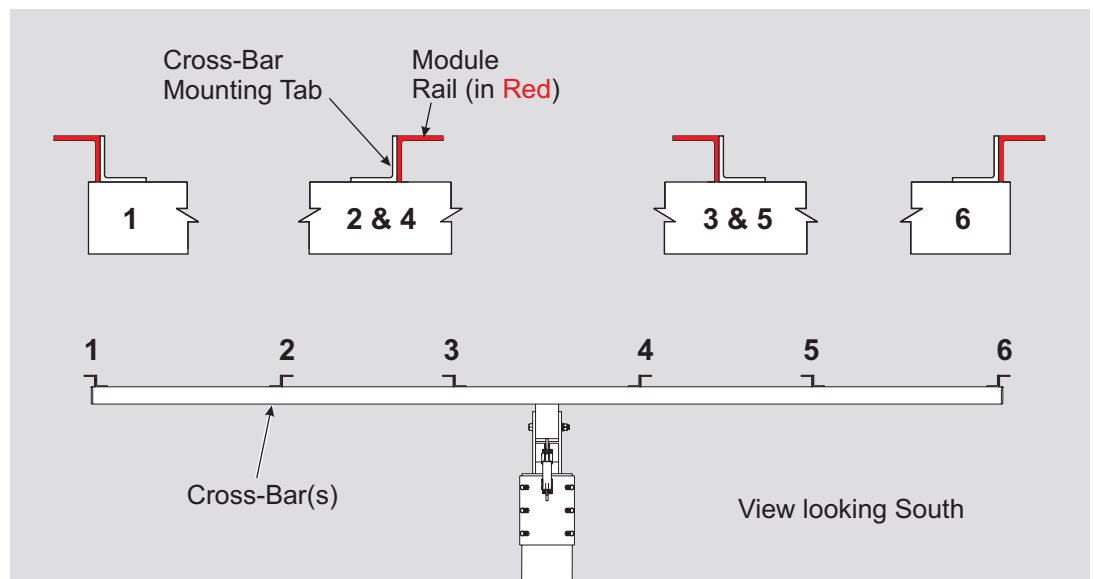
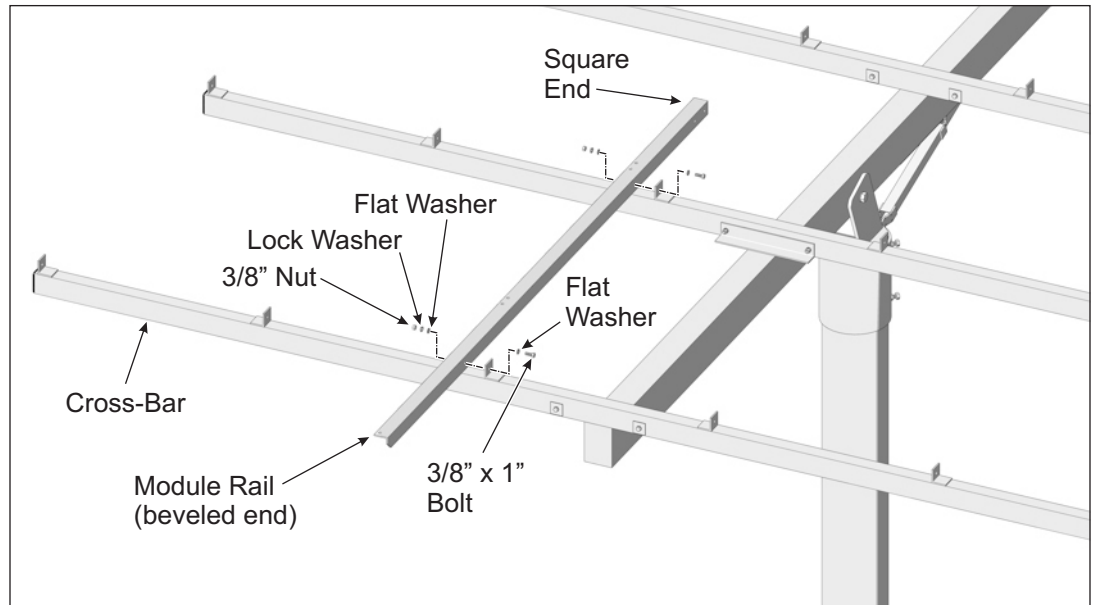

Figure 4-1: Orientation of Module Rails to Cross-Bars
Figure 4-2: Installing southern inboard Module Rail to Cross-Bars
The Cross-Bars have six locations where Module Rails are attached. At each of these locations two Rails are installed and butt jointed using Splice Plates. Splice Plates are positioned on the outside of the Module Rails (See Figure 4-1) and secured using 3/8" x 1" bolts and hardware. There are six Splice Plates to install.
Additionally, Module Rails are installed differently depending on where they are located on the Cross-Bars and the orientation of the mounting tabs of the Cross-Bars. Follow these instructions carefully for the correct orientation. (See Figure 4-2)
- A. Referring to Figure 4-1 for orientation of the Module Rails, position the first section of inboard Module Rail in the southern position on the Cross-Bars. Align the Module Rail mounting holes with the holes of the Cross-Bar mounting tabs and secure with 3/8" x 1" bolts and hardware. Finger-tighten for now. (See Figure 4-2)
Continue in this manner and install all remaining Module Rails (ten more) while being mindful and following Figure 4-1 for proper orientation of the Rails to the Cross-Bar mounting tabs.